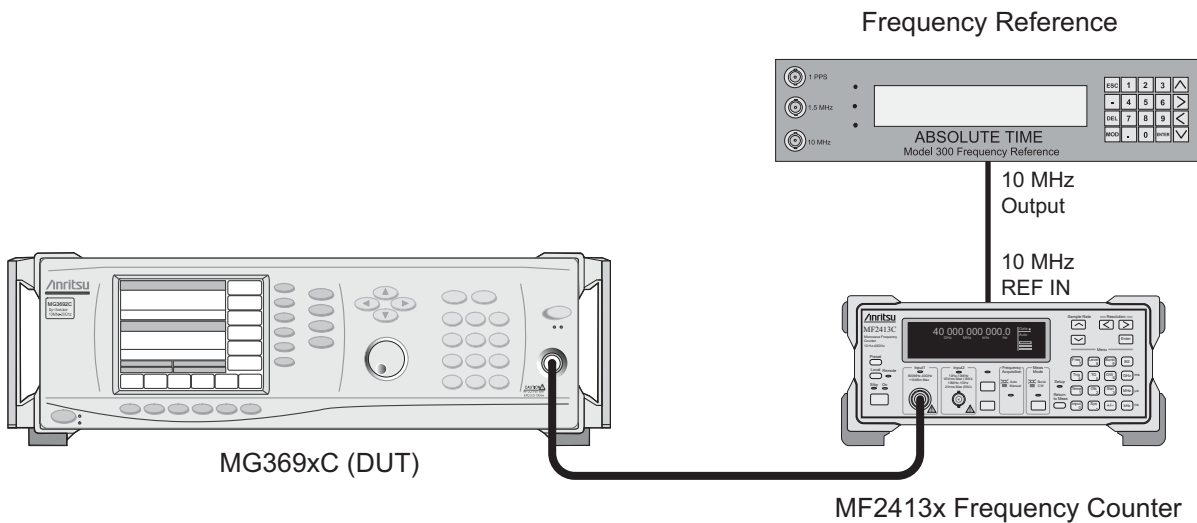

Figure 5-3. Equipment Setup for 10 MHz Reference Oscillator Calibration
- a. Connect the equipment as shown in Figure 5-3.
- a.** Connect the equipment as shown in Figure 5-3.